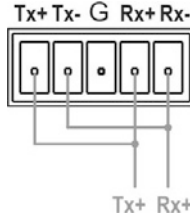
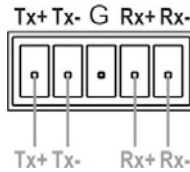

Figure 6: Wiring for an RS-485 Serial Data Source
Figure 7: Wiring for an RS-422 Serial Data Source
- Connect the RS-485/RS-422 serial data source to the RS-485/RS-422 terminal block connector on the rear panel of the device as shown in Figure 6 or Figure 7